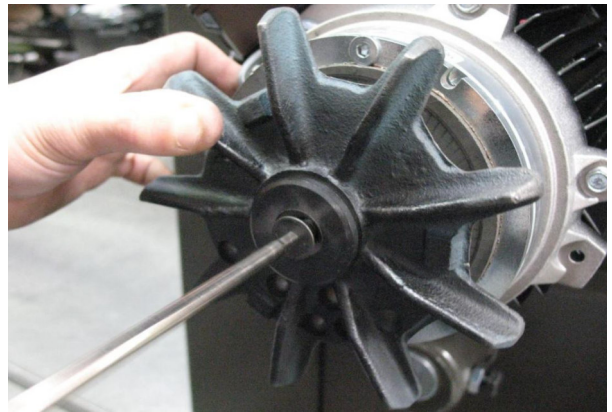

Fig. 29: Fasten fan wheel
Step 7: Insert the bolt, making sure that the nut is correctly seated in the recess provided on the shaft (Fig. 29).